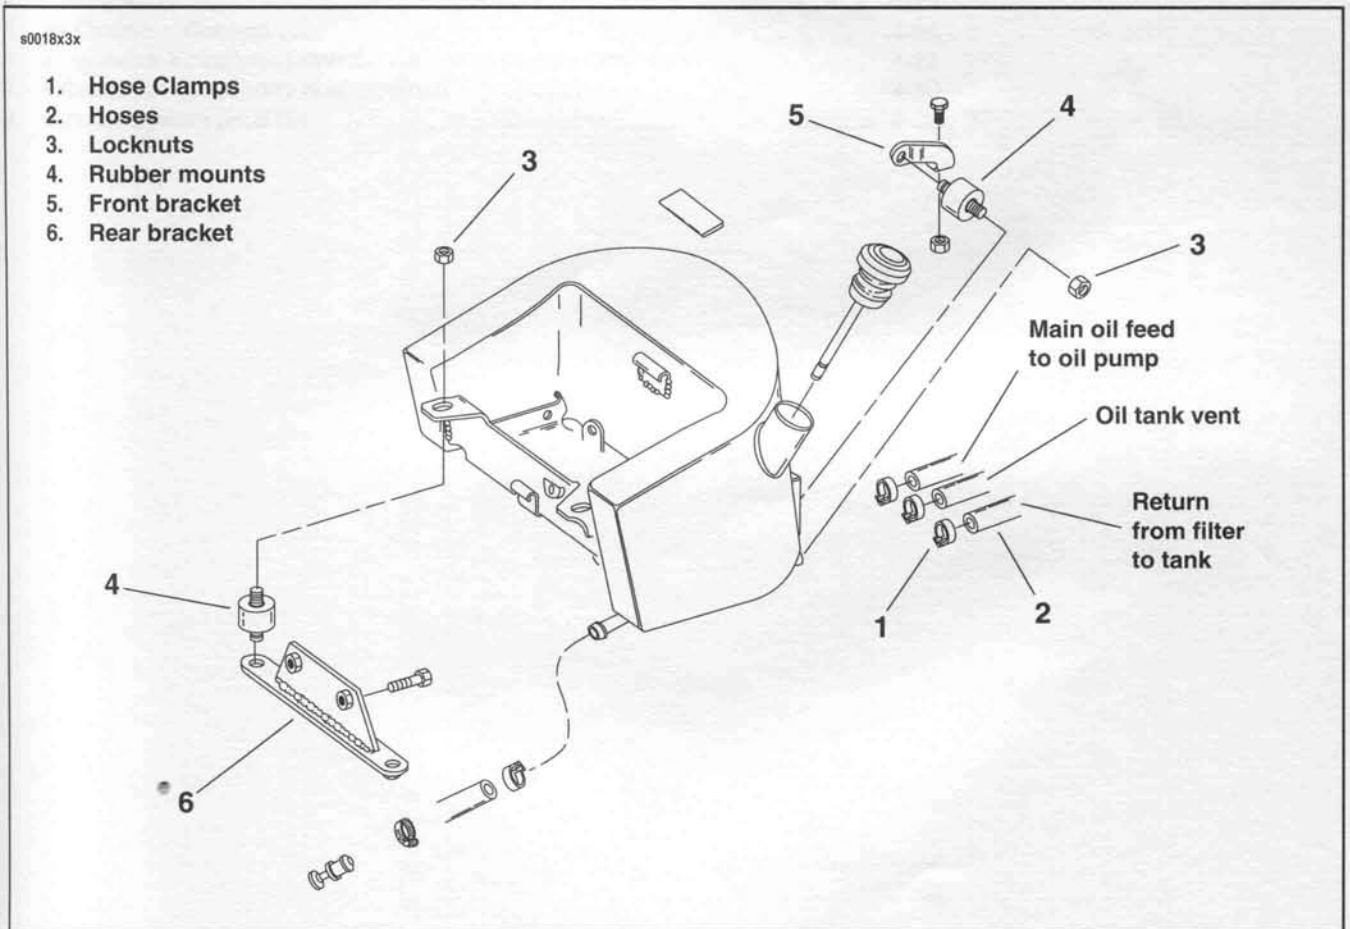

Figure 3-92. Softail Oil Tank
4. See Figure 3-92. Remove hose clamps (1). Slide hoses (2) off oil tank nipples.
5. Remove locknuts (3) from rubber mounts (4).
1. See Figure 3-92. Carefully place oil tank in position on rubber mounts (4).
2. Install locknuts (3). Tighten locknuts (3) to 15-19 ft-lbs (20-26 Nm)